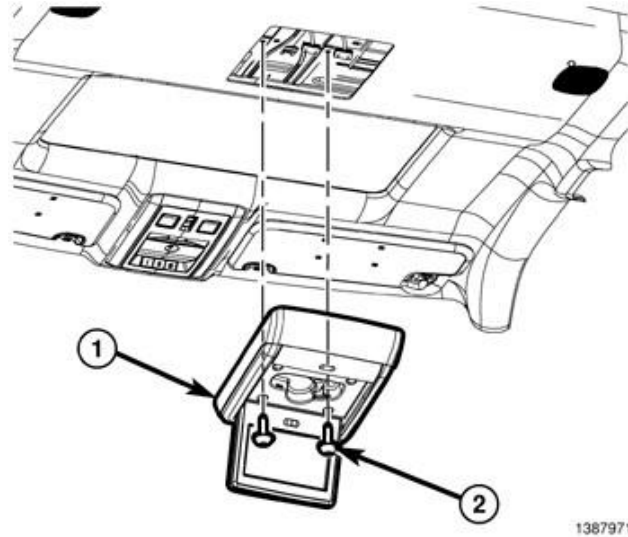
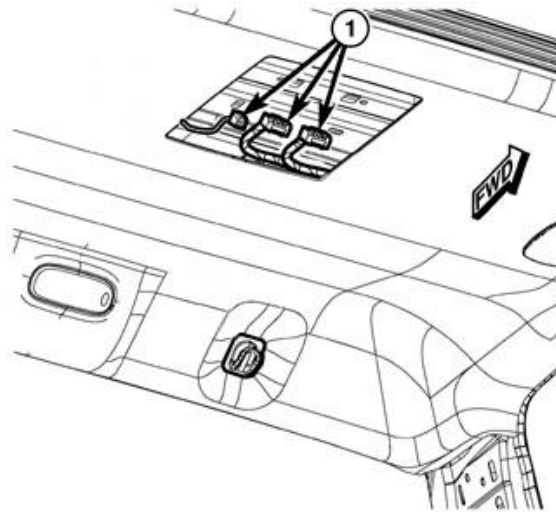

Figure 56 – Rear Seat DVD Monitor
Figure 57 – DVD Monitor Electrical Connectors
25. If equipped with DVD monitor, remove the screws (2) and separate the monitor (1) from the roof (Figure 56).
26. If equipped with DVD monitor, disconnect the electrical connectors (1) (Figure 57).
52. If equipped with DVD monitor, connect the DVD monitor electrical connectors (1) (Figure 57). Position the DVD monitor to the roof then install and tighten the screws (2) (Figure 56).